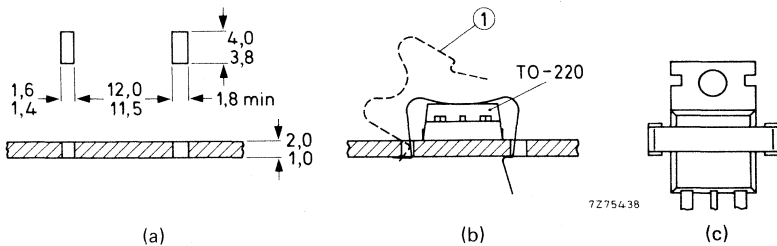

Fig. 1 (a) Heatsink requirements; (b) mounting (1 = spring clip); (c) position of the device (top view).
2. Push the short end of the clip into the narrow slot in the heatsink with the clip at an angle of  $10^{\circ}$  to  $30^{\circ}$  to the vertical (see Fig. 1).
3. Push down the clip over the device until the long end of the clip snaps into the wide slot in the heatsink. The clip should bear on the plastic body, not on the tab (see Fig. 1(c)).